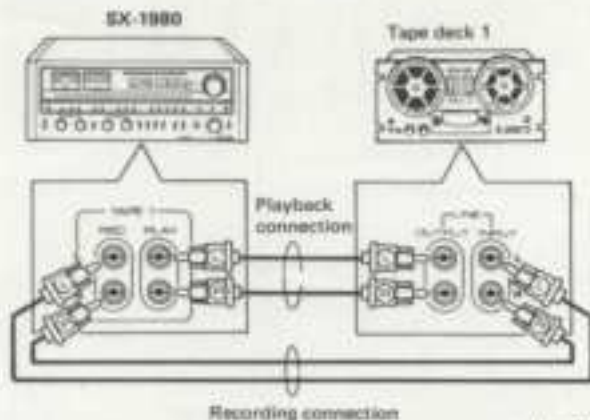

Fig. 3
The receiver is provided with two sets of recording (TAPE REC) output jacks and two sets of playback (TAPE PLAY) input jacks. Connect each of the jacks in the following way using the connecting cords which come with the tape deck. The upper row of jacks is for the left channel (L) and the lower row for the right channel (R) (Fig. 3).